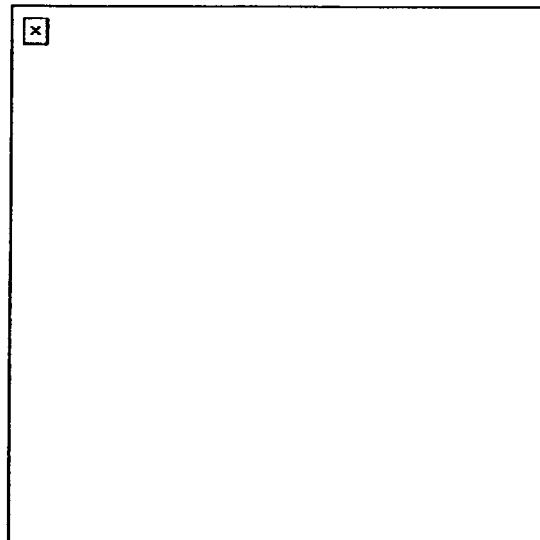
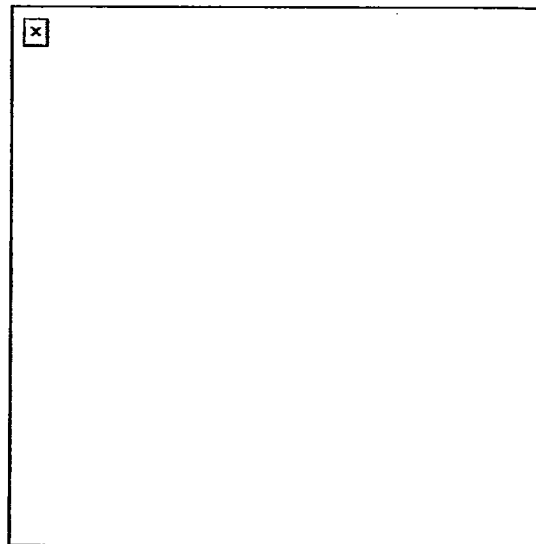
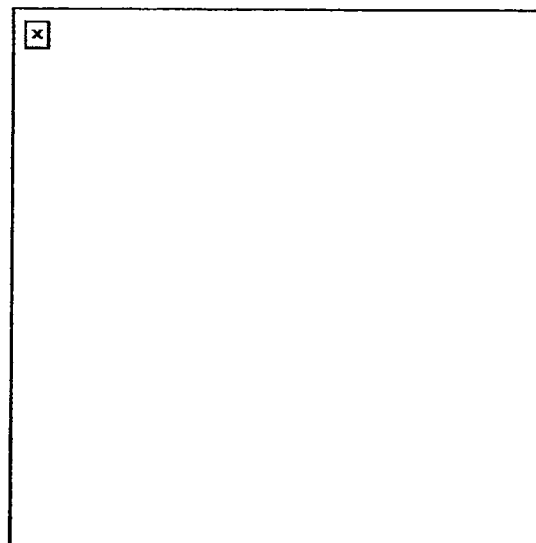

Figure 1. Zero aiming point.
Figure 2. M16A1 zeroing target.
Figure 3. M16A2 zeroing target.
5. Place the zeroing range aiming point of the reticle on the target aiming point; fire three rounds to obtain a good shot group (Figure 1). Use either the M16A1 25-meter zero target (NSN 6920-01-167-1392) shown in Figure 2 or the M16A2 25-meter zero target (NSN 6920-01-253-4005) shown in Figure 3. When zeroing the night vision sight, you can use either of these targets with either the M16A1 or M16A2 rifle. Use the marginal information on the target to adjust the sights on the rifle—not the night vision sight.
6. Locate the center of the shot group. From the center of the group, adjust the reticle to move the center of the shot group to a point 7 centimeters (10 1/2 squares on the M16A1 target; 7.8 squares on the M16A2 target) directly below the target aiming point (Figure 2 and Figure 3). Mark the reticle adjustment actuators to show the direction of round impact movement.
- b. On the M16A1 zero target, 1 1/2 squares equals 1 centimeter and 10 1/2 squares equals 7 centimeters (Figure 2). On the M16A2 zero target, each square is .9 centimeter and 7.8 squares equal 7 centimeters (Figure 3).